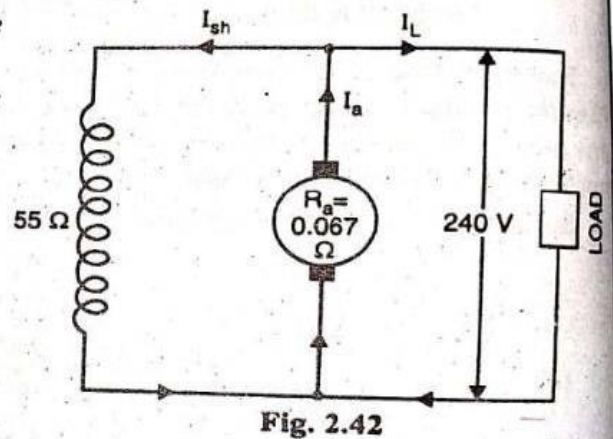

Fig. 2.42
**Solution.** Fig. 2.42 shows the shunt generator circuit.